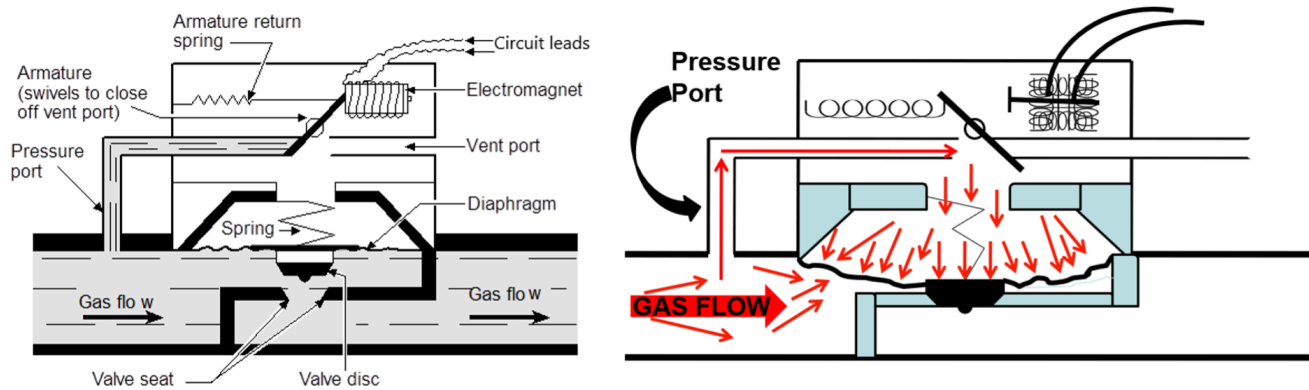

Figure 46. Diaphragm gas valve operation
2. The electromagnet then pulls the armature into a position that blocks off the pressure port, allowing gas pressure above the diaphragm to bleed off through the vent port to a standing pilot flame (Figure 46 left).
4. When the heat call has been satisfied, the electromagnet becomes de-energized and the armature return spring pulls the armature into a position that blocks off the vent port (Figure 46 right).